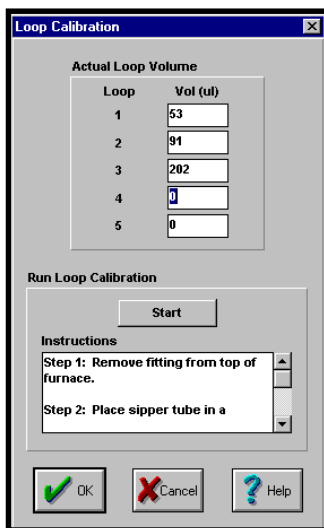

Figure 4.3. Loop Calibration Screen
1. Go to the **Setup** menu and select **Configuration**. This will access the Configuration Screen. Click on **Loop Cal**. This will access the Loop Calibration Screen (Figure 4.3).